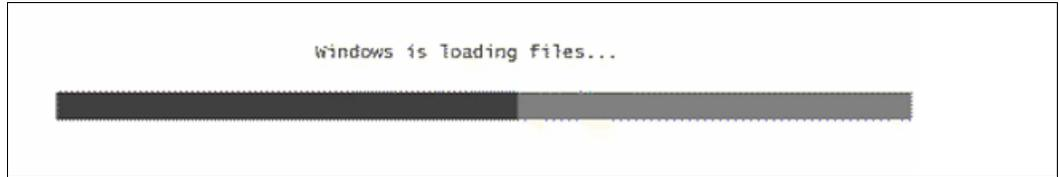

Figure 10-38 Rebooting the server
1. Insert the appropriate Windows Server 2008 installation media into your DVD drive. Reboot the server, as shown in Figure 10-38.